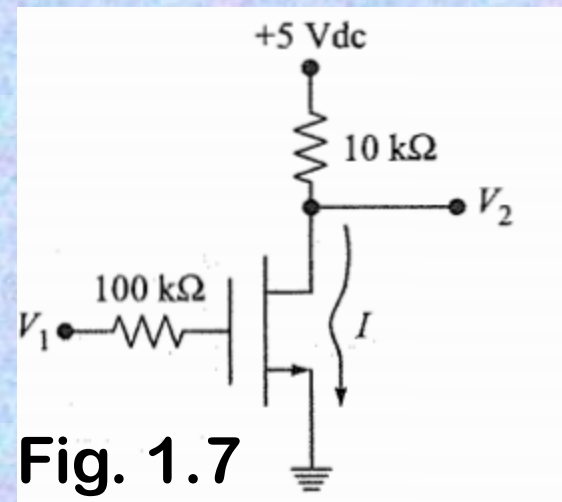

Fig. 1.7
An n-channel MOSFET can be used to construct a simple inverter as shown in Fig. 1.7. Determine the current I and the output voltage V_2 if (a) $V_1 = 0$ Vdc, and (b) $V_1 = +5$ Vdc.
- The small size of a MOSFET on an IC is one of the great advantages of ICs constructed using MOSFETs. The $10\text{-K}\Omega$ resistor in Fig. 1.7 requires a large area on an IC compared to a MOSFET. A second MOSFET can be used in place of this resistor, as shown in Fig. 1.8. In this case, transistor Q_1 has its gate connected directly to its drain. When it is connected in this fashion, its behavior is similar to a resistor but shows little non-linearity compared to passive load, Q_1 is called an active load, and this circuit is a simple inverter.